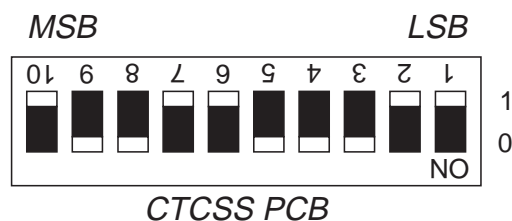

Figure 9 *DIP Switch Programming*
Refer to Table 1 and Figure 9.
The DIP switch codes for standard EIA tones are set out in Table 1 on the following page. Programme the DIP switch (SW1) on the T800-02 PCB as shown in Figure 9.
3. Convert to binary code and programme the DIP switch (LSB to "1" switch and MSB to "10" switch) as shown in Figure 9.